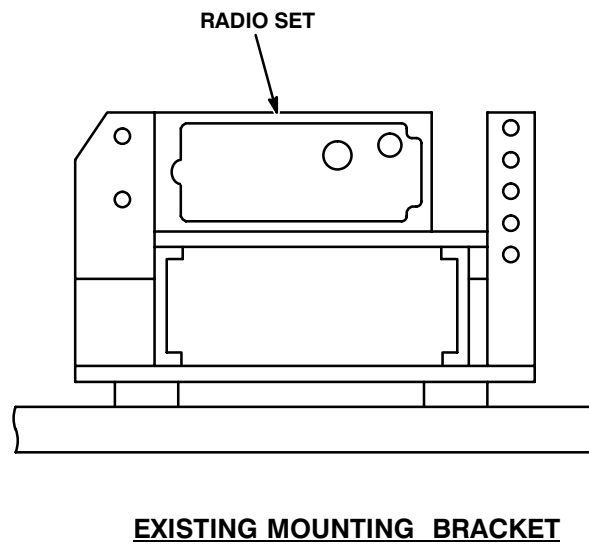

Figure 5-1 (2). MK and Radio Installation: Radio Equipment Locations
**5.1 Installation of Antenna AS-3900/VRC (antenna).** See Figure 5-1 (1) for location.